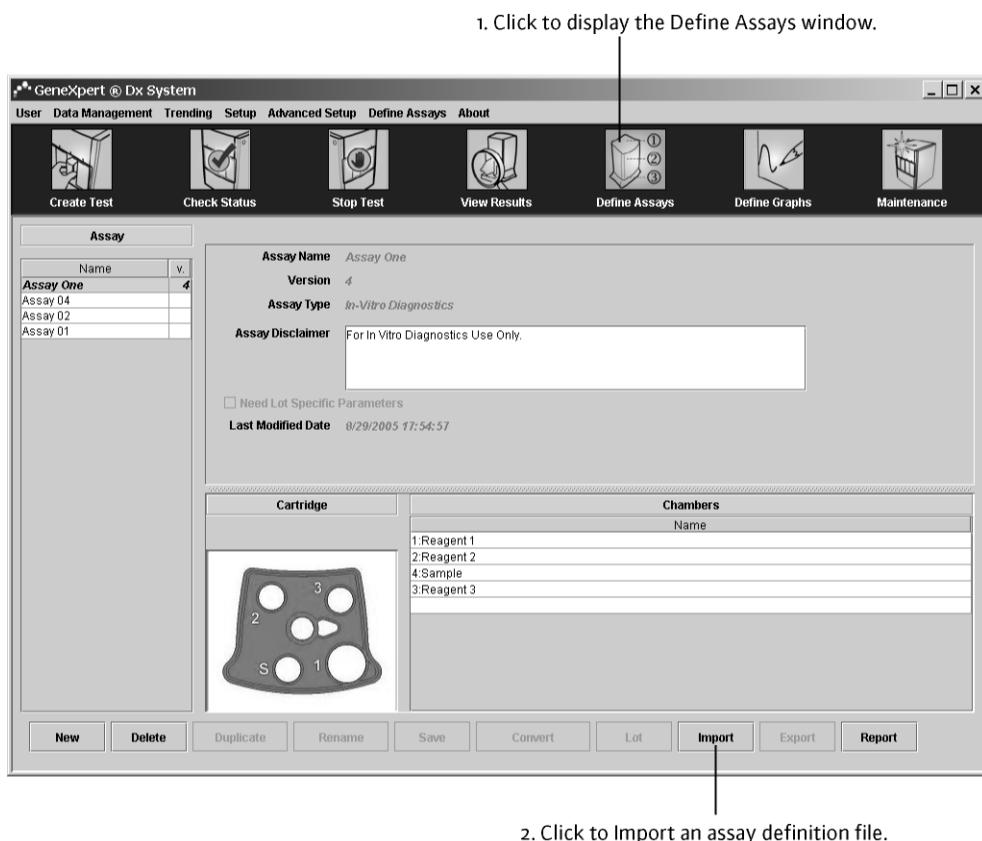
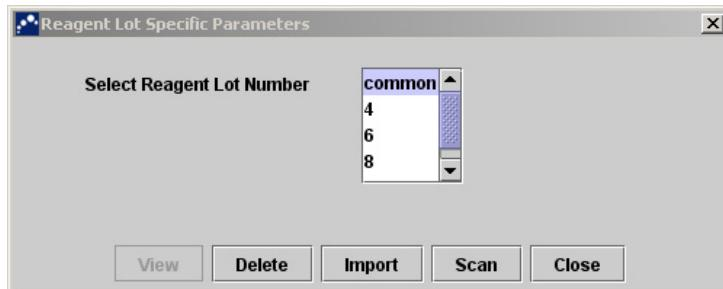

Figure 2-31. GeneXpert Dx System – Define Assays window (administrator view)
Figure 2-32. Reagent Lot Specific Parameters dialog box
1. In the GeneXpert Dx System window, click **Define Assays** on the menu bar. The Define Assays window appears. Figure 2-31 shows the Define Assay window for the GeneXpert Dx System administrator. The window for Detail and Basic users has fewer functions.
1. To delete an assay definition file, in the Define Assays window (Figure 2-31), select the assay name in the Assay list (on the left side of the window), and then click **Delete**. A confirmation message appears.
1. In the Define Assays window (Figure 2-31), select the assay name in the Assay list (on the left side of the window).
2. Click **Lot**. The Reagent Lot Specific Parameters dialog box appears (Figure 2-32).
1. In the Define Assays window (Figure 2-31), click **Lot**. The Reagent Lot Specific Parameters dialog box appears (Figure 2-32).
To create a report for an assay definition, in the Define Assays window (Figure 2-31), click **Report**.